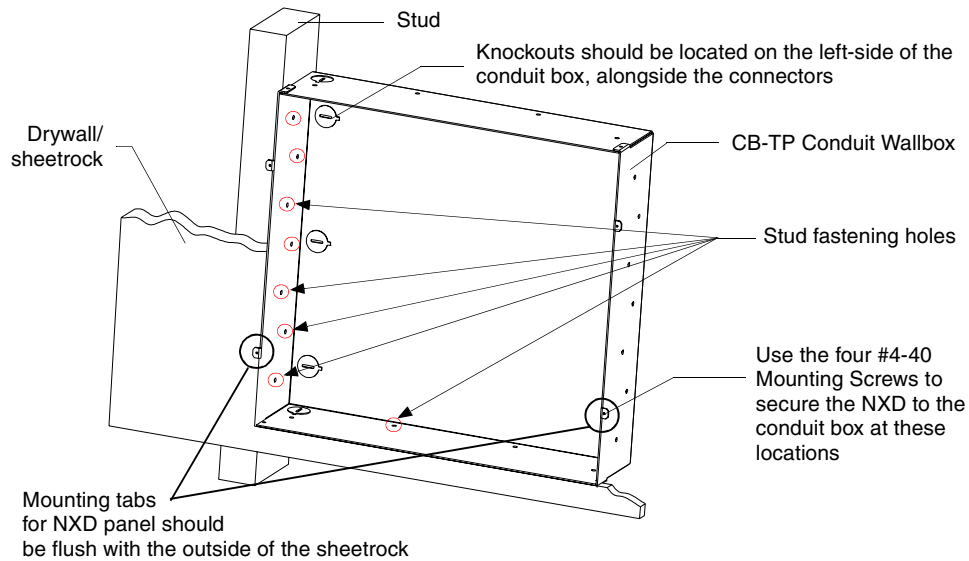
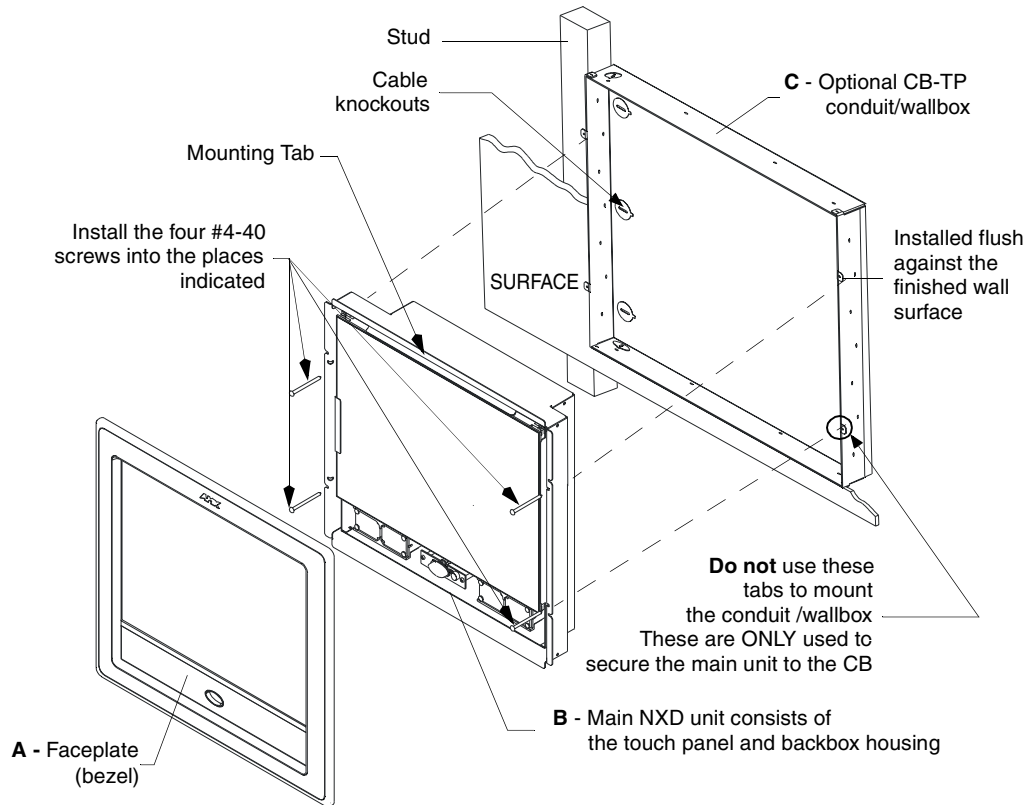

FIG. 36 Screw locations for conduit box attachment in a pre-wall installation
FIG. 37 Wall Mount panel installation configuration for pre-existing conduit/wallbox in a pre-wall construction
1. Fasten the CB-TP12 to a stud through the stud fastening holes, located on the inside of the conduit box (FIG. 36), by using either nails or screws.
2. Remove any necessary wiring knockouts from the (optional) conduit box (C in FIG. 36) where the necessary cables are threaded through for connection to the touch panel.
1. Remove the magnetic faceplate/bezel (**A** in FIG. 37) from the main NXD unit (**B** in FIG. 37) by gripping the faceplate and pulling with gentle outward force.
- 6.** Carefully slide the main unit (**B** in FIG. 37) into the conduit box, so the Mounting Tabs lie flush against the conduit box (**C** in FIG. 37).
- 7.** Insert and secure the four securing #4-40 Mounting Screws into their corresponding holes located along the sides of the NXD (FIG. 36 and FIG. 37).
- 8.** Place the magnetic faceplate (**A** in FIG. 37) back onto the main NXD unit (**B** in FIG. 37). *Make sure to align the Microphone, Light, and PIR Motion sensor locations to their respective openings on the front bezel/faceplate.*